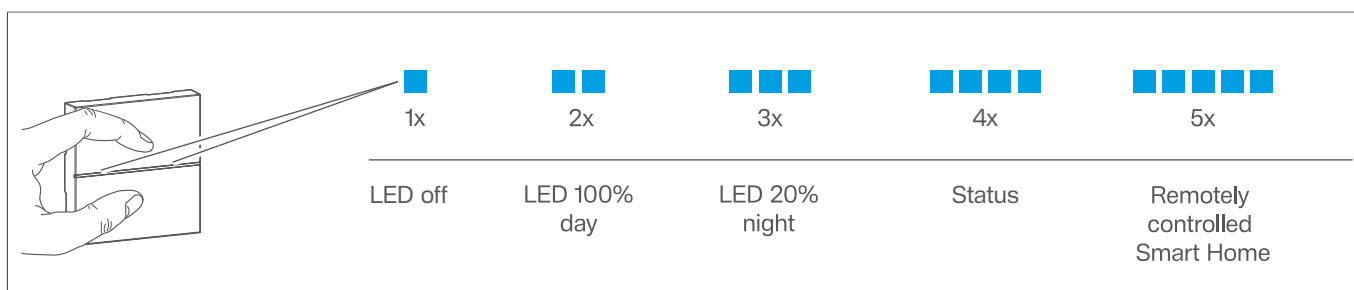

Fig. 6: Set LED operating mode
- Within 10 seconds, select the desired LED operating mode by briefly pressing both buttons (see Fig. 6: Set LED operating mode).